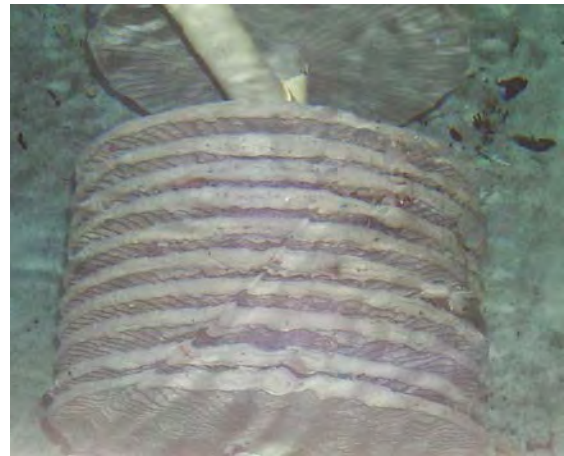

Figure 5-8: DE filter elements
Diatomaceous Earth (DE) is a fine, porous medium that is held onto a mesh support by pump pressure or suction. DE is made up of the remains of single celled marine plants called diatoms that were deposited many millions of years ago (Fig 5-7). When viewed microscopically, diatomaceous earth has a very fine, lacelike structure. Per pound, this structure gives DE tremendous surface area. When deposited on filter septa (Fig. 5-8), DE can filter particles out of the water as small as 2 µm in diameter, making it the most effective filter system available.